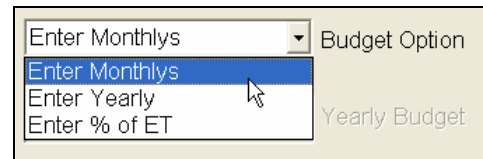

Figure 16.4.26B
3. Next use the drop down arrow next to the **Budget Option** box to select the type of budget desired (Figure 16.4.26B).